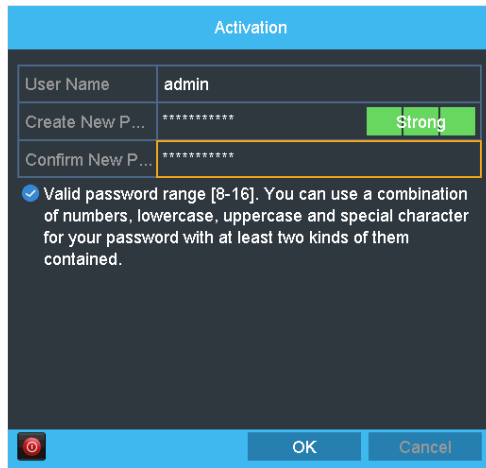

Figure 16 Setting Admin Password — Strong
2. Input the same password in the “Create New Password” and “Confirm New Password” text fields (Figure 14), (Figure 15), and (Figure 16).